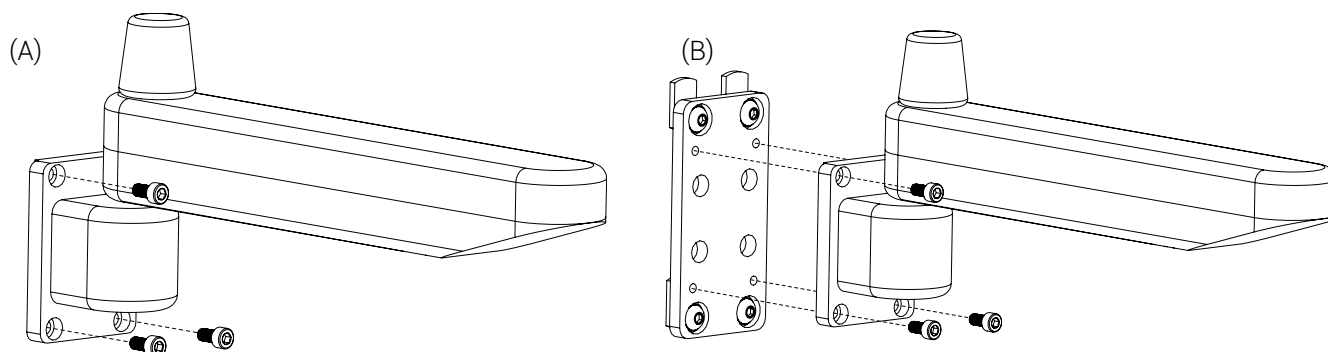

Figure 24: Installation of the support plate on the SLIDE adapter (3 of 4 screws illustrated)
1. Ensure to have applied all four (4) brakes on the transport cart.
2. Remove the four (4) SLIDE adapter screws of the Draeger mounting system using an Allen key 5 mm (Figure 24 A), and set them aside. The screws will be reused in the next step.
3. Align the screw holes of the support plate and the SLIDE adapter, then tighten the four (4) screws using an Allen key 5 mm (Figure 24 B).